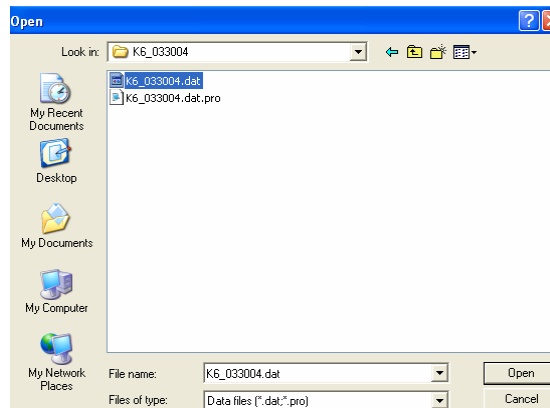

Figure 14. Create ASCII blocks for .dat file
2. **Tools→Create ASCII Blocks** (Figure 14) performs the function of exporting recorded *.dat file to .txt file block by block. The *.dat is a binary file which can be read by Visual Basic. The purpose of transforming data into *.txt file is to make the recorded data readable by 3rd party commercial graphics and statistical software.